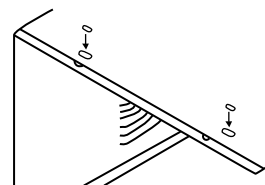

Fig. 6
9. Add two foam inserts to holes in top of cabinet where shipping screws were removed from. (See Fig. 6.)
1. Attach foam gasket to top angle above holes. (See Fig. 6.)